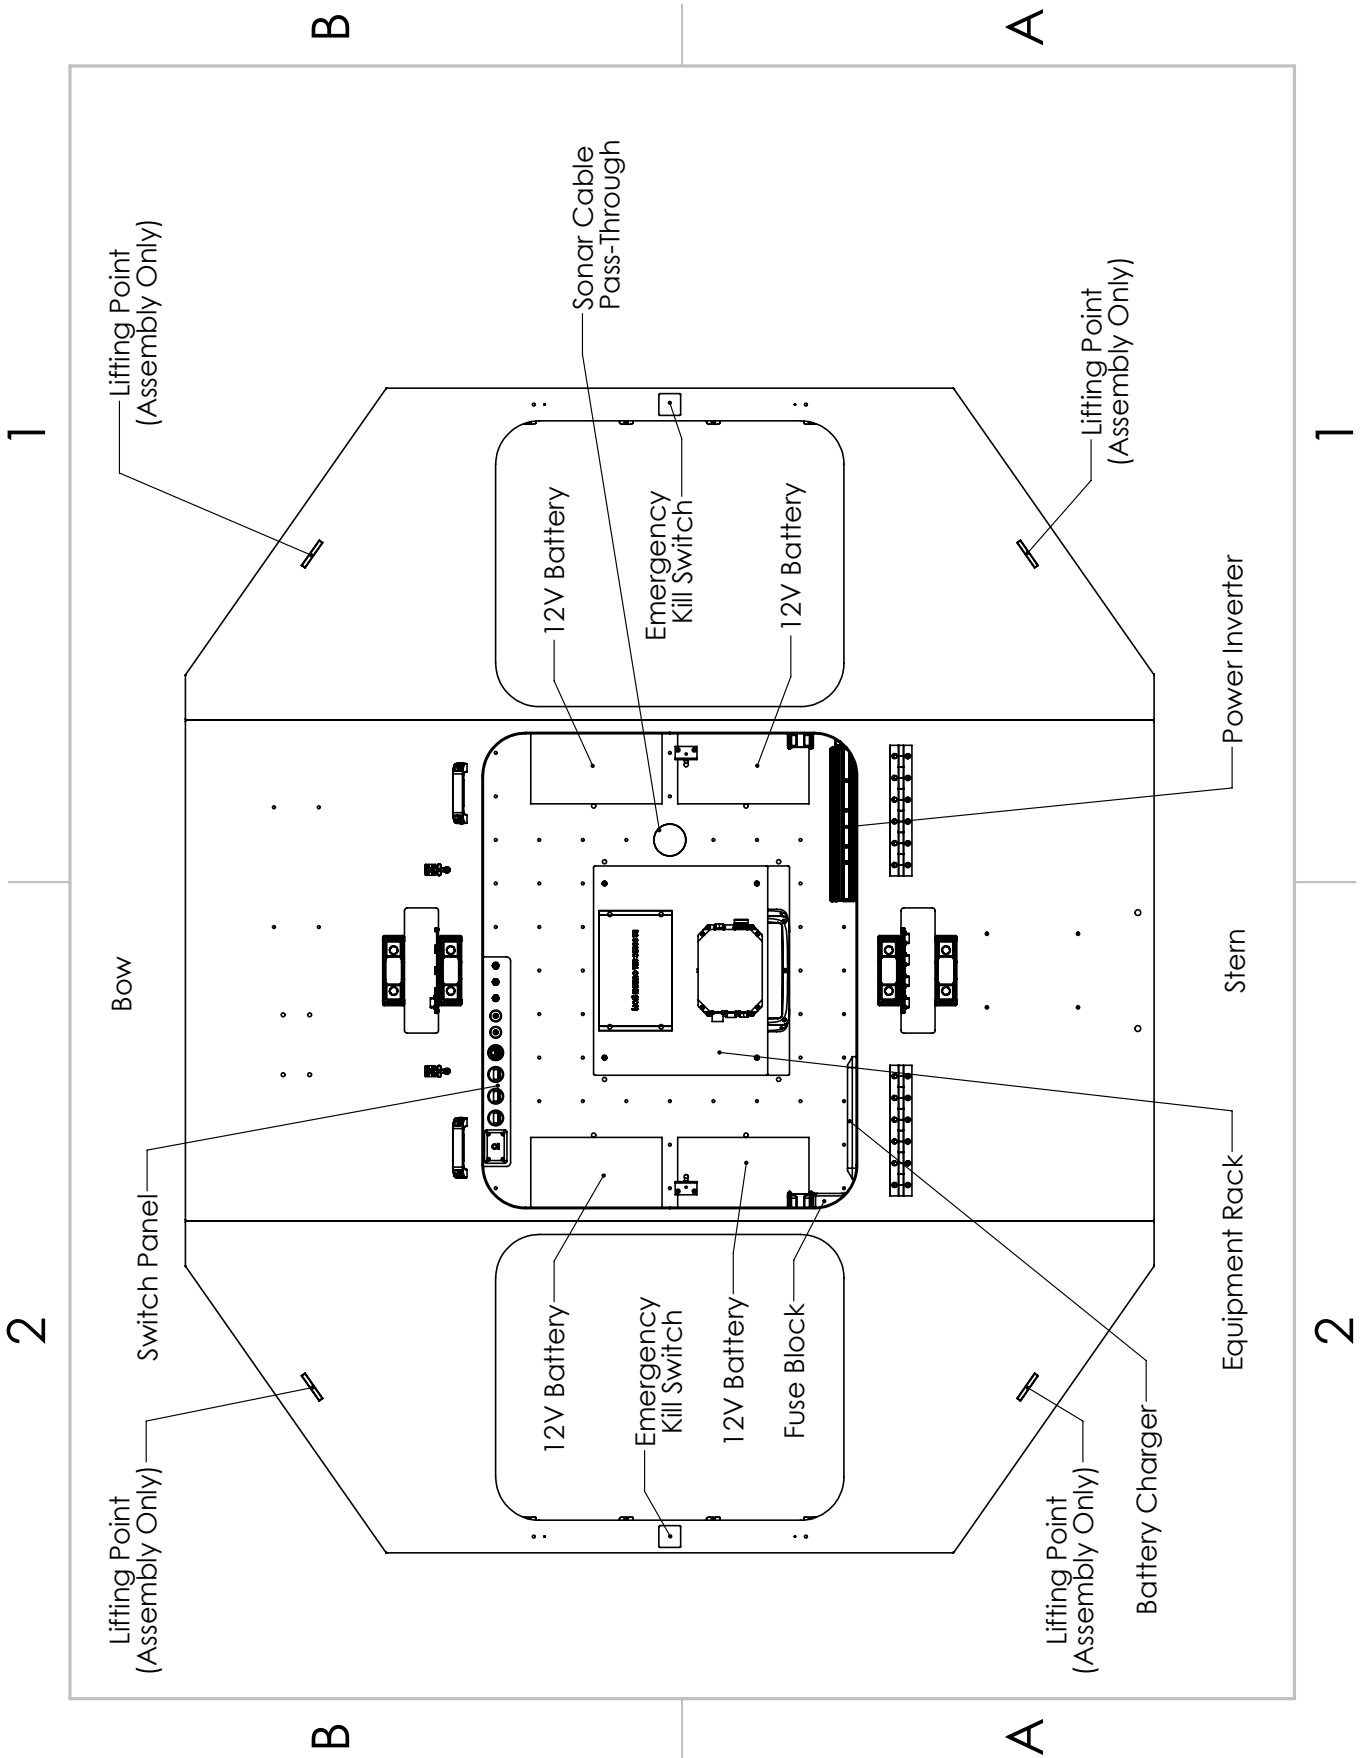

Figure 9: HydroCat™ 180 Gimbal Deck
3. Secure the shackles to the gimbal lifting points(Figure 9) and lifting straps.